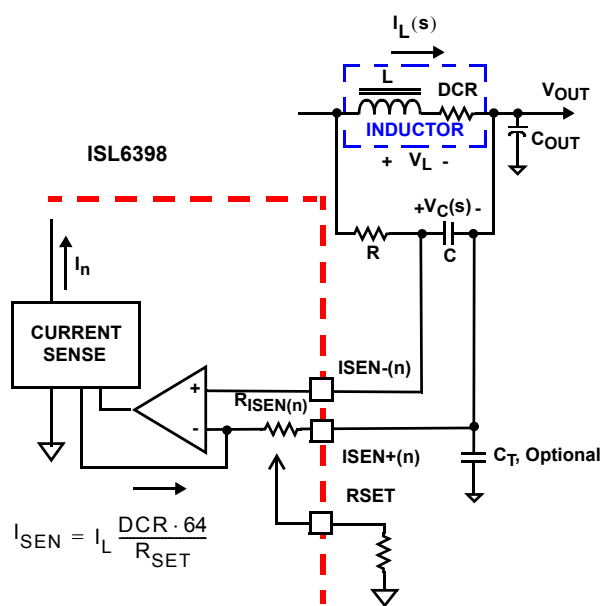

FIGURE 4. DCR SENSING CONFIGURATION
The internal circuitry, shown in Figures 4 and 5, represents one channel of the VR output, respectively. The ISEN± circuitry is repeated for each channel, but may not be active depending on the status of the PWM[6:2] pins, as described in "PWM Operation" on page 17. The input bias current of the current sensing amplifier is typically 25nA; less than 8kΩ input impedance is preferred to minimized the offset error, i.e., a larger C value as needed.
An inductor's winding is characteristic of a distributed resistance, as measured by the Direct Current Resistance (DCR) parameter. Consider the inductor DCR as a separate lumped quantity, as shown in Figure 4. The channel current  $I_L$ , flowing through the inductor, will also pass through the DCR. Equation 4 shows the S-domain equivalent voltage across the inductor  $V_L$ .
A simple R-C network across the inductor extracts the DCR voltage, as shown in Figure 4.
The current sense circuitry operates in a very similar manner for negative current feedback, where inductor current is flowing from the output of the regulator to the PHASE node, opposite of flow pictured in Figures 4 and 5. However, the range of proper operation with negative current sensing has a limitation. The worst-case peak-to-peak inductor ripple current should be kept less than 80% of the OCP trip point ( $\sim 80\mu A$ ). Care should be taken to avoid operation with negative current feedback exceeding this threshold, as this may lead to momentary loss of current balance between phases and disruption of normal circuit operation. Note that the negative current can especially affect coupled inductor designs, where the effective inductance is the leakage between the two channels, much lower than the specified mutual inductance (LM) and self inductance (L). To limit the impact, a higher  $R_{SET}$  value ( $1.5x$  to  $2x$ ) is often used to reduce the effective negative current seen by the controller in coupled inductor designs.